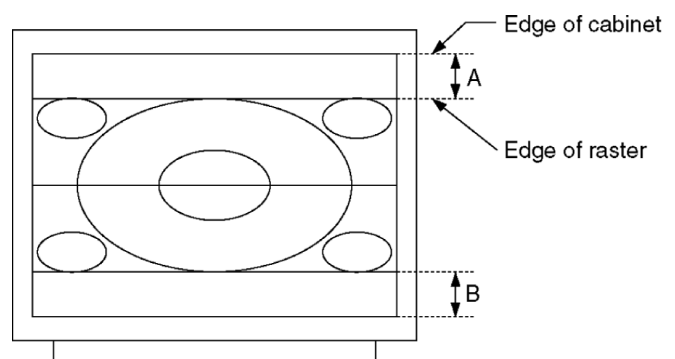

Fig. 7
4. Confirm that A, B in Fig. 7 is 5.0 cm $\pm$ 1 cm. If not, adjust V-AMP (100i / 16:9).
6. Confirm that A, B in Fig. 7 is 5.0 cm $\pm$ 1 cm. If not, adjust V-AMP (50p / 16:9).
9. Confirm that A, B in Fig. 7 is 5.0 cm $\pm$ 1 cm. If not, adjust V-AMP (120i / 16:9).
11. Confirm that A, B in Fig. 7 is 5.0 cm $\pm$ 1 cm. If not, adjust V-AMP (60p / 16:9).